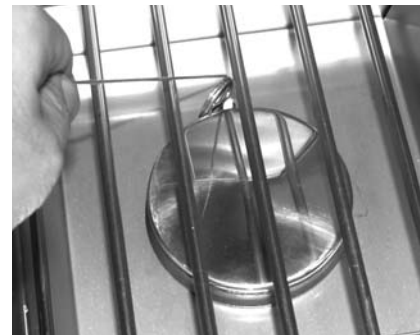

Fig. 9-2 - Manual lighting
**CAUTION:** Always wait five (5) minutes for gas to clear after any unsuccessful lighting attempt.
2. Insert either a burning long-barrel butane lighter, a burning long-stem match, or a burning match held by a wire extension holder through the cooking grid opening to the burner (Fig. 9-2). Hold the flame against the edge of the burner.
4. If the burner does not light, **immediately depress the knob and turn the valve to OFF. WAIT FIVE (5) MINUTES** before repeating steps 2 through 4 of the **MANUAL LIGHTING** instructions.